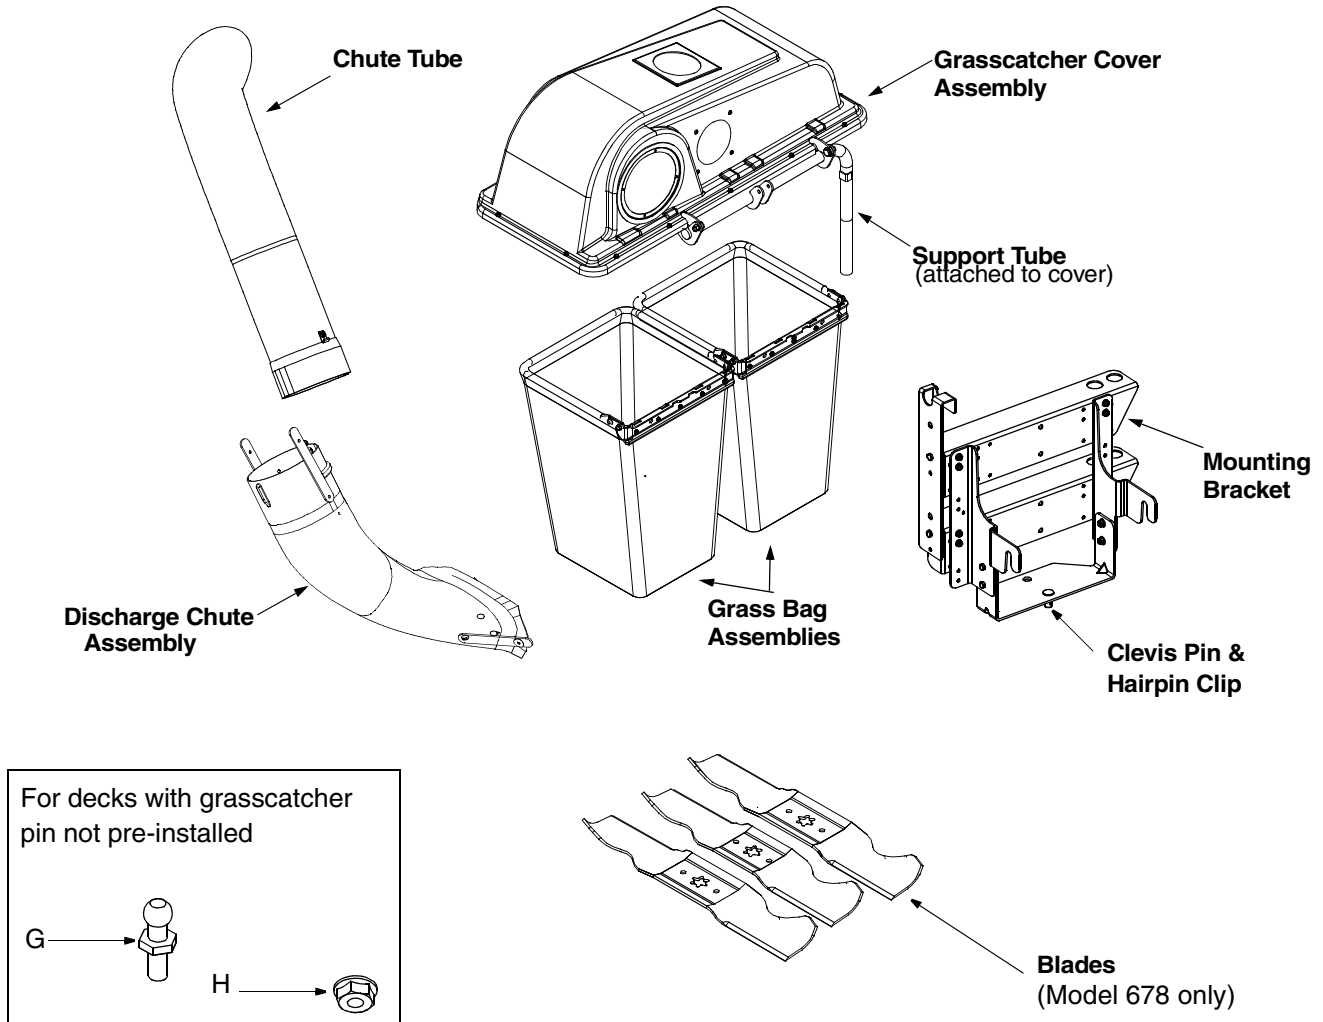

Figure 1
The grass catcher kit is shipped with following loose parts in the carton. Please remove all loose parts from the carton before discarding it. Compare with Figure 1 to check that no parts are missing from the kit or have been misplaced during unpacking.
- **On older models:** A grasscatcher pin (G in Figure 1) and nut (H in Figure 1) have been supplied in the hardware pack. Attach these to the deck in place of the clip just removed. Follow Figure 6B for order of assembly. Make sure to secure the pin tightly.